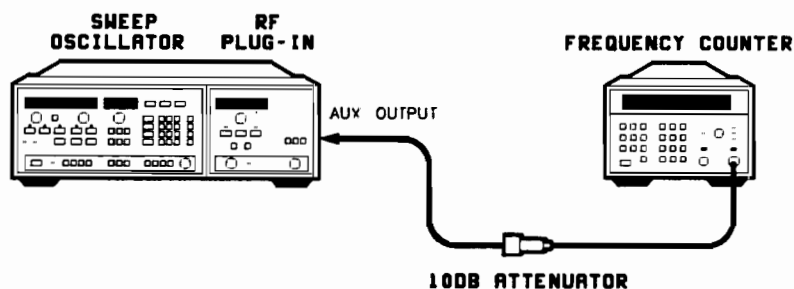

Figure 5-8. Preliminary Frequency Accuracy Test Setup
1. Connect the equipment as shown in Figure 5-8 with the frequency counter connected to the HP 83592A rear panel AUX OUTPUT connector through the 10 dB attenuator. Allow the equipment to warm up for 1 hour.